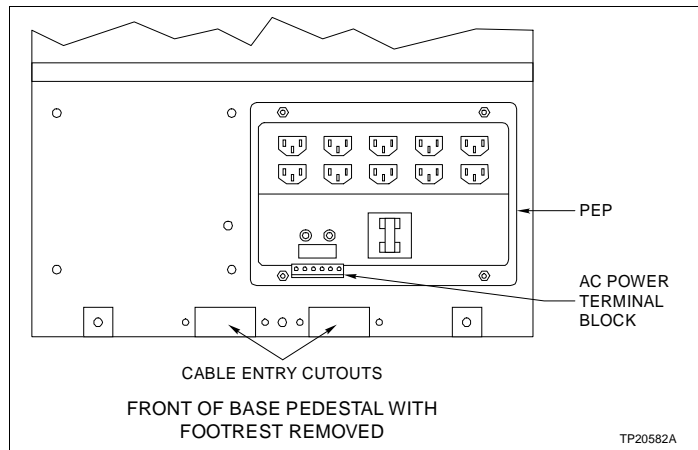

Figure PR26-5. Cable Entry Cutout and PEP Locations
- 11. Bring the power wiring from the service up through one of the cable entry cutouts in the bottom of the base pedestal of the beam in which the power wiring will be connected and run it up to the beam. Figure PR26-5 shows the location of the cable entry cutouts.